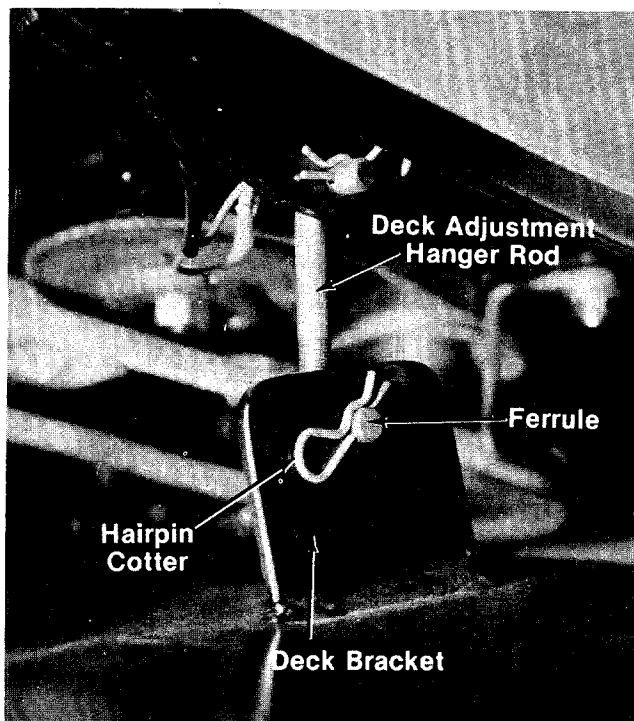

FIGURE 40.
8. Remove the hairpin cotter which holds the ferrule and deck hanger adjustment rod to the deck bracket, located on the left hand side of the deck. See figure 40.